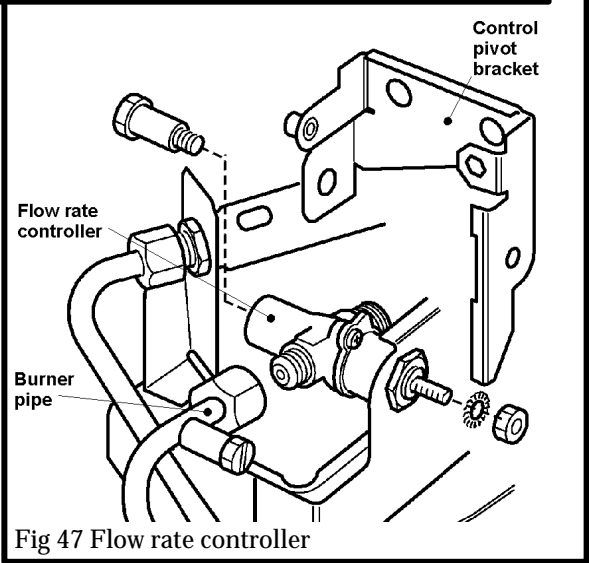

Fig 47 Flow rate controller
13.10 To remove the gas flow rate controller (see figure 47)